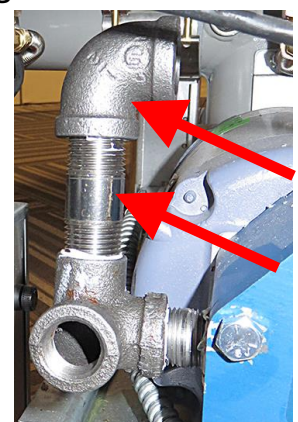

Figure 24
26. Apply Locktite to both ends of the 2" nipple (8130298). Insert the nipple into the top of the elbow, attached to the pump, in the previous step (see Figure 24).
27. Attach the 90° elbow (8130062) to the top of the nipple in the previous step. Tighten and orient as shown (see Figure 24).